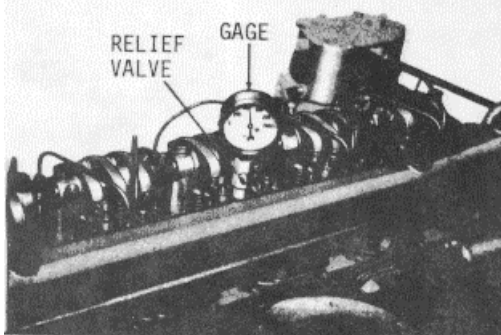

Fig. 2 Checking Compression Pressure
- (1) Start the engine and run it at approximately one half rated load until normal operating temperature is reached.
- (2) Stop the engine and remove the fuel pipes from the injector and fuel connectors of the No. 1 cylinder.
- (3) Remove the injector and install an adapter and pressure
- gauge (Fig. 2) from Diagnosis Kit J 9531-01.
- (4) Use one of the fuel pipes as a jumper connection between the fuel inlet and return manifold connectors. This will permit fuel from the inlet manifold to flow directly to the return manifold.
- (5) Start the engine and run it at a 600 rpm. Observe and record the compression pressure indicated on the gauge. Do not crank the engine with the starting motor to obtain the compression pressure.
- (6) Perform Steps 2 through 5 on each cylinder. The compression pressure in any one cylinder at a given altitude above seal level should not be less than the minimum shown in Table 1. In addition, the variation in compression pressures between cylinders must not exceed 25 psi (172 kPa) at 600 rpm.